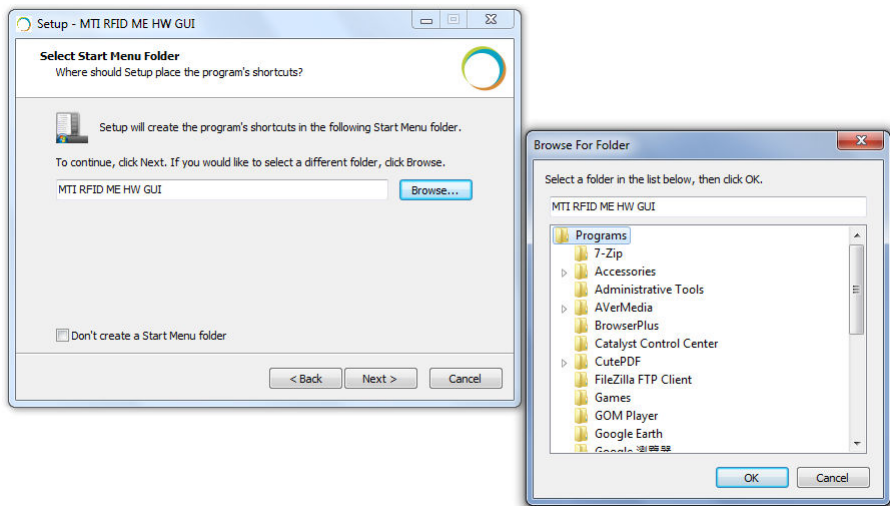

Figure 4
2.1.4. Select a destination for the program’s shortcut to appear. To select a different folder, click “Browse” and choose one of the available options as shown in Figure 4.